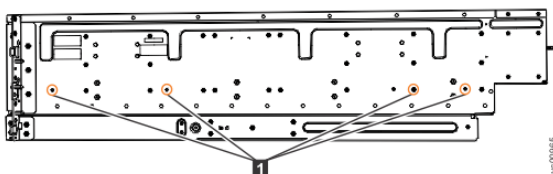

Figure 51. Screw locations to attach the inner rail to the enclosure
4. Use four M4 screws to attach the inner rail to the side of the enclosure. Figure 51 on page 85 shows the screw locations.